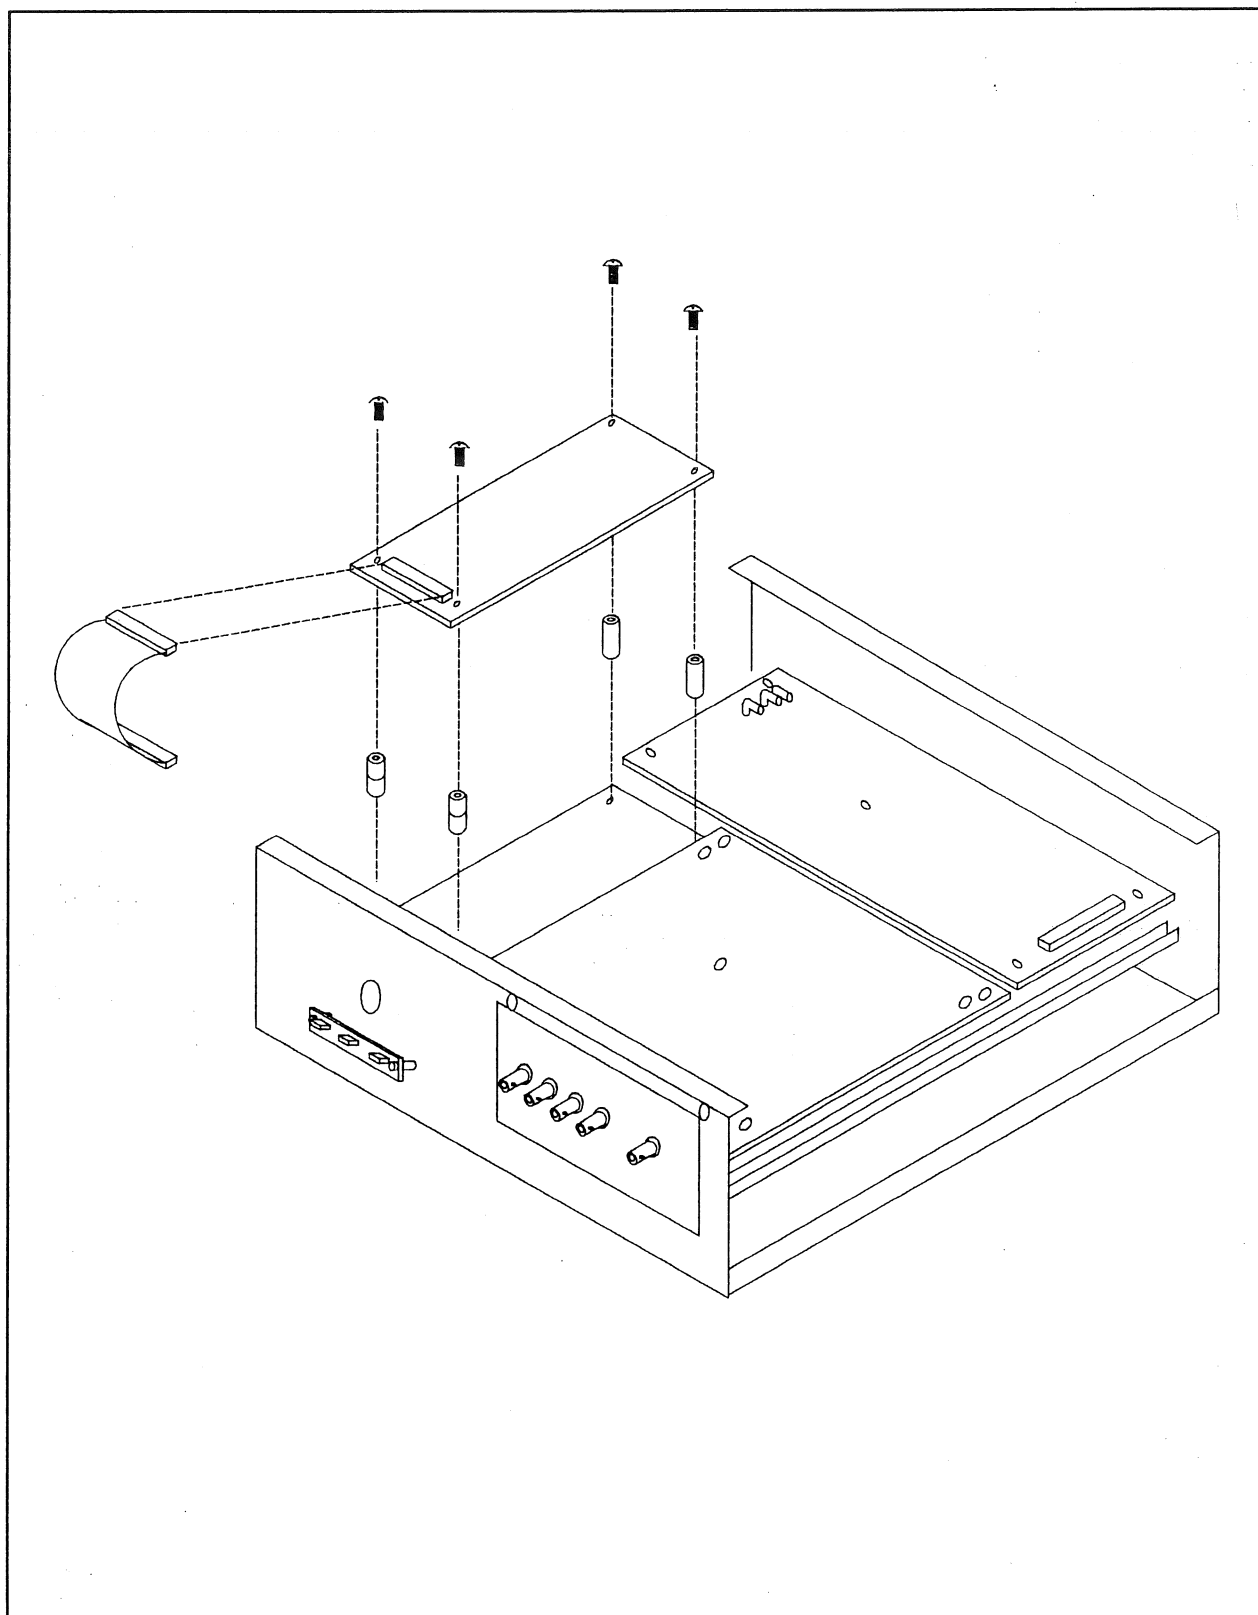

Figure 3-5. Removing the FXP Board
- 3** Remove the four screws that hold the FXP Board to the Mother Board. See Figure 3-5.
- 4** Disconnect the flat ribbon cable. See Figure 3-5.